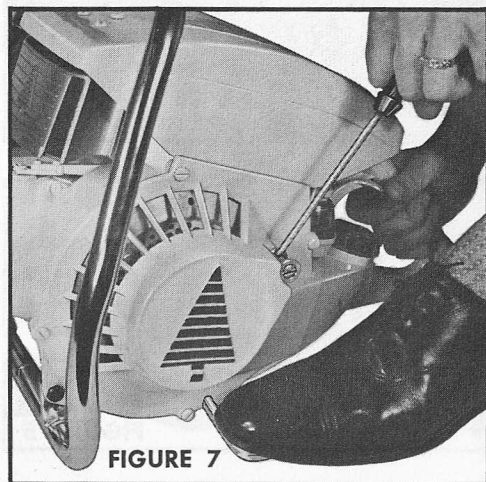

FIGURE 7
6. Take a firm hold on the pistol grip with the right hand, and open the throttle with your index finger (figure 7).
7. Take the starter handle in your left hand and place the left foot firmly on the starter foothold (figure 7).